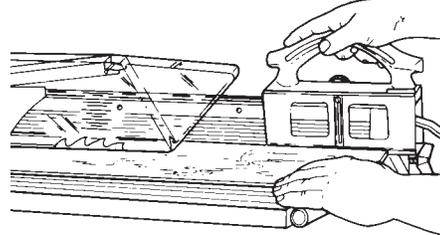

Figure A-6
- Use the fence straddler to hold down and push stock narrower than 1-1/2" past a blade or cutter. The body rides on the rip fence, while the heel hooks over the back edge of the stock. To change the height of the heel, loosen the locking knob. To reverse the heel, rotate the side 180°. Keep the locking knob secure. See Figure A-6.